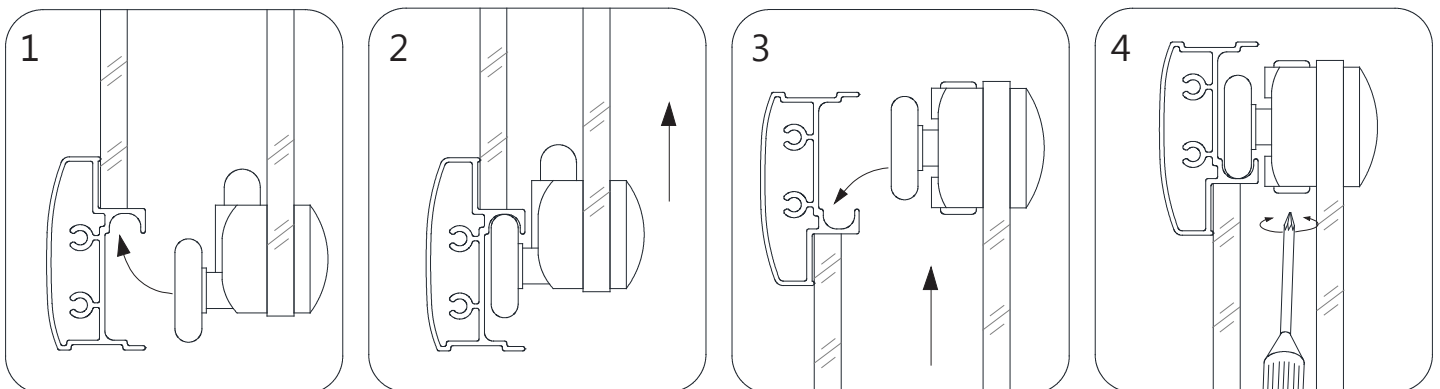

Fig 14
12. From inside the shower, insert the bottom **Wheel Assemblies (#17)** into the **Bottom Guide Rail (#03)**, lift the door up and set the top **Wheel Assemblies (#17)** into the **Top Guide Rail (#03)**. Test the operation of the door, and if necessary, use a #2 Phillips screwdriver (do not use a power screwdriver) to adjust the upper wheels so the door rolls smoothly and the closes tight. (**Fig 14**)